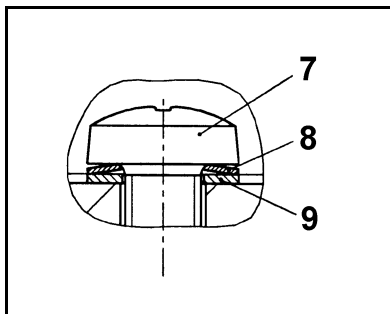

Fig. 10: Position and orientation of disk (8) and washer (9) at screw (7)
\* see fig. 10
1. Place head plate (10) on intermediate plates (11), (14) and (15) in the position indicated by the drawing lines.
2. Tighten the three screws (7) of head plate (10) carefully slightly hand-tight.
- i** For position and orientation of disk spring (8) and washer (9) of screw (7) see fig. 10.
3. Place head cover (4) on pump housing (18).
4. Tighten the nine screws (3) of head cover (4) slightly in the first instance. Start with the screws of medium pump stage, then tighten the screws on the right, at least these on the left.
5. Now, tighten the screws (3) firmly; tighten the center screws first, then continue outward.
6. Remount the covers (5).
7. Remount pump handhold (2).